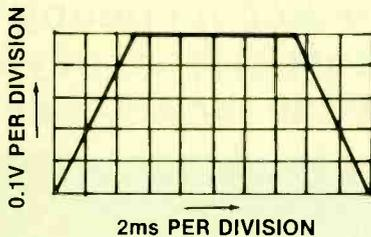

Figure 1. What is the rise time of this waveform?
I wish I could print all of the funny letters I got about the dead short across the battery in the *in-situ tester* schematic. The schematic, as it originally appeared in the September issue, is shown in Figure 1.
Refer to September '87 edition, page 60, Figure 1. It would seem that the ideal way to keep the battery manufacturers in business is to build in a permanent short circuit.
- The rise time of the waveform in Figure 1